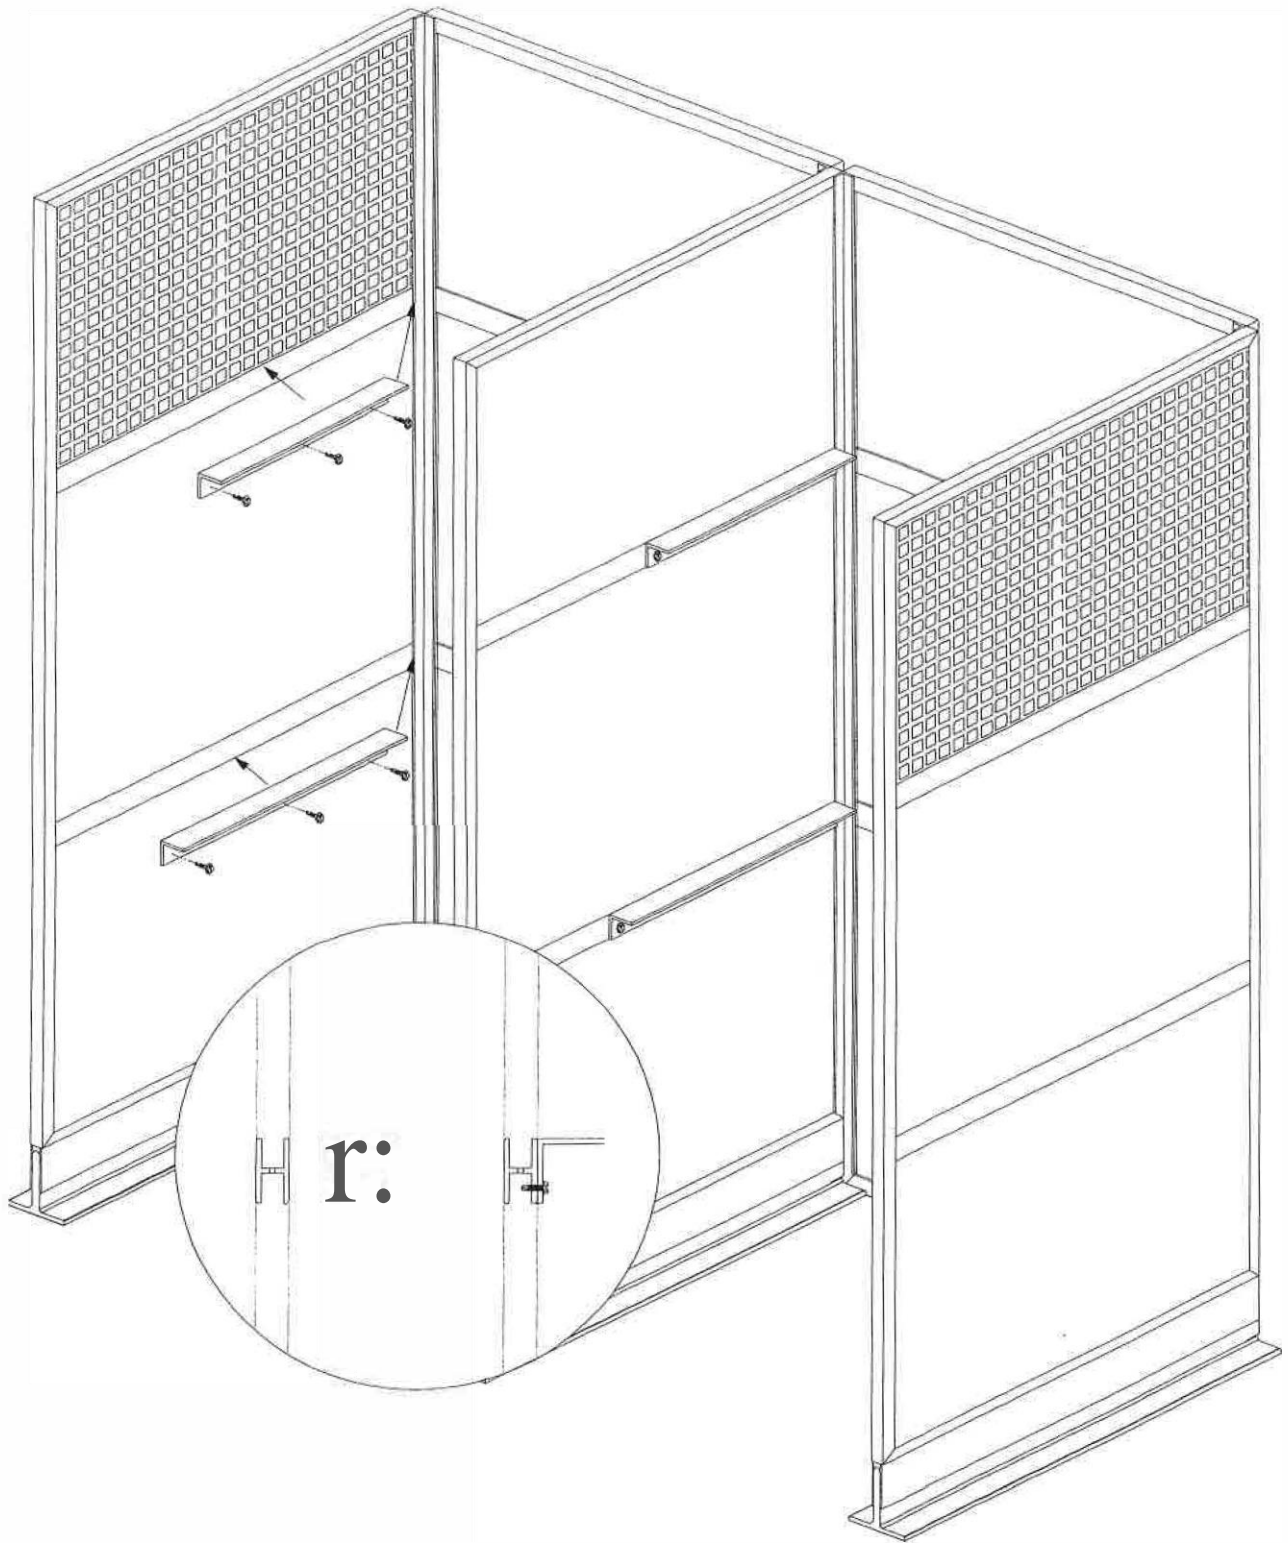

Figure 7
2. Position a short floor support angle against the division panel as shown in figure 7.
4. In the same manner position and secure a long floor support angle to the division panel as shown in figure 7.